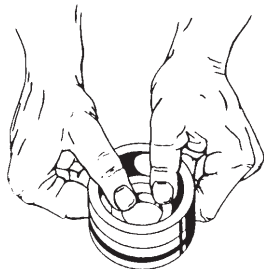

Figure 4-12
20. Carefully press seal seats (#12.5B) into both seal cups (#2B).(refer to figure 4-12) A clean soft material should be used between the seal face and pressing tools. The smoothest side of the seat should face up. Caution: Dirt and scratches can quickly ruin seals.